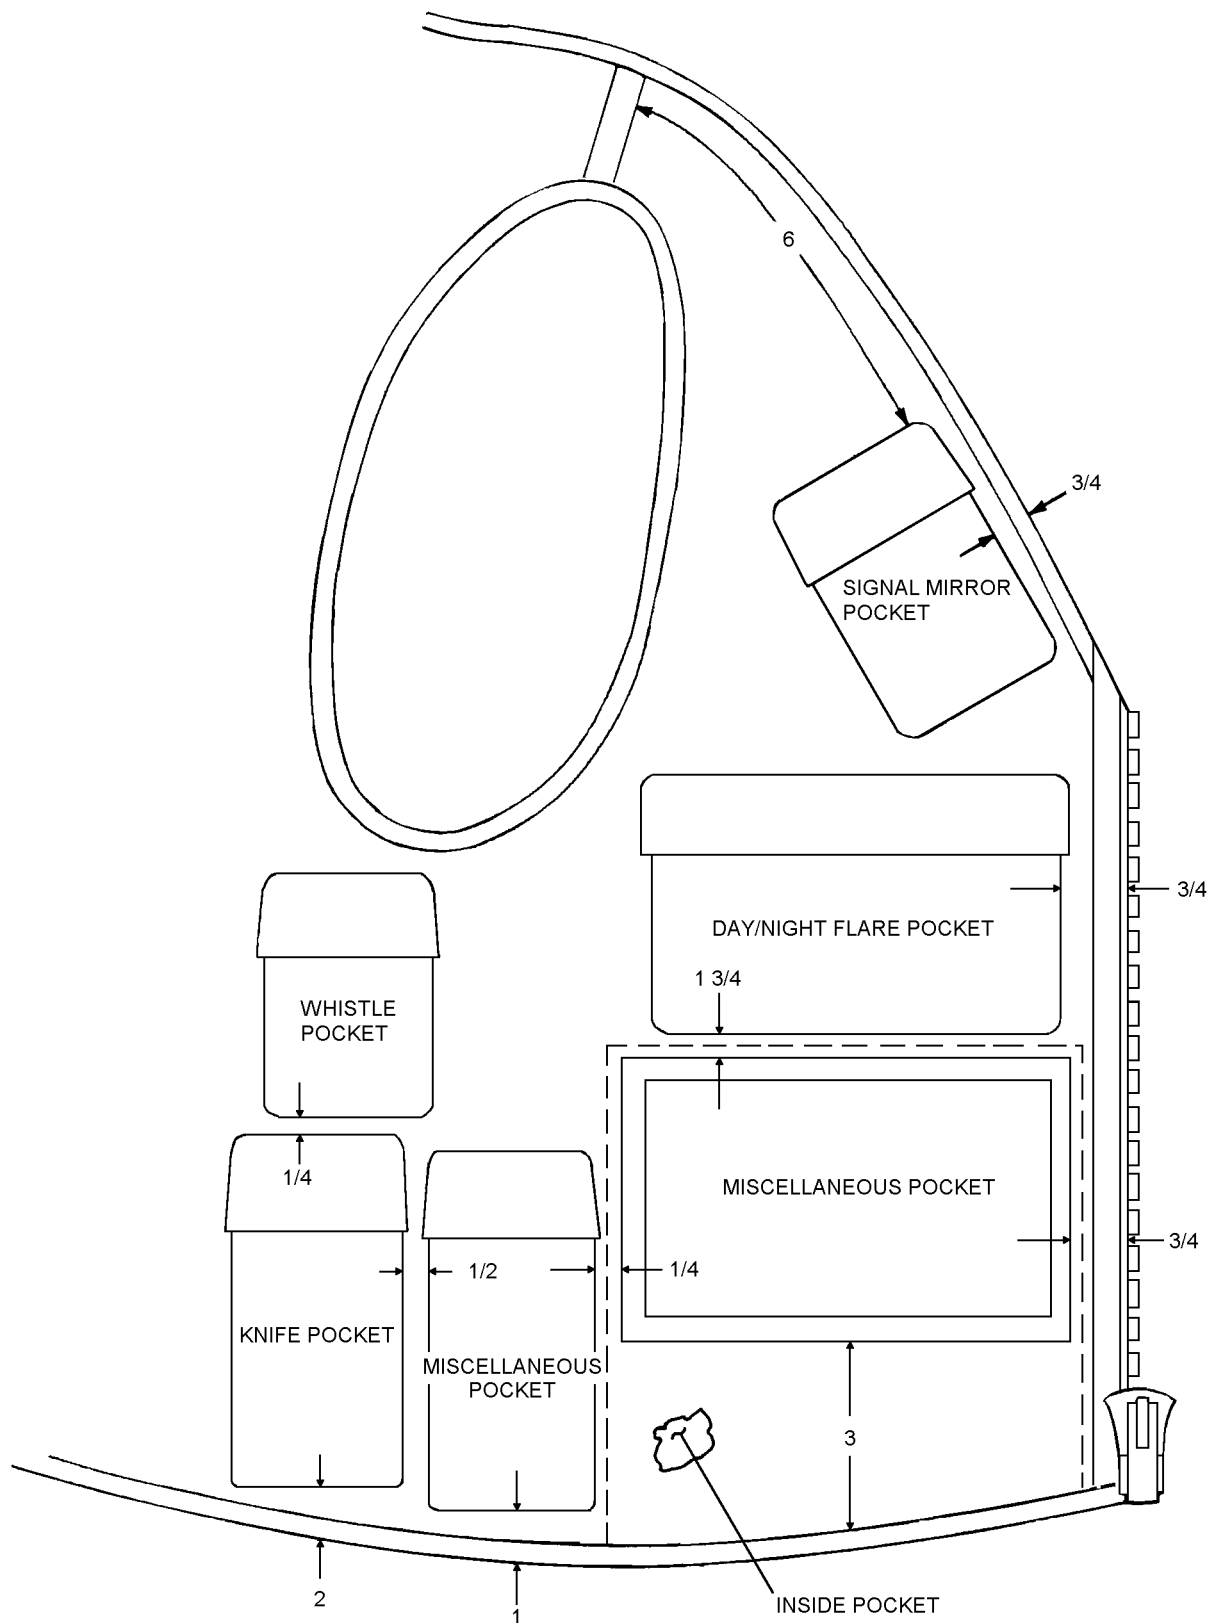

Figure 6-36. CMU-24/P Survival Vest Pocket Placement - Right Front
1. Mark locations of pockets on vest in accordance with figure 6-36 and 6-37.
Note: With the exception of the radio pocket, all of the pockets listed above are provided with the SRU-21/P, and in some cases are already attached to the vest. Location and configuration of pockets shall be compared to Figures 6-36 and 6-37, and repositioned as necessary. The radio pocket must be procured separately.